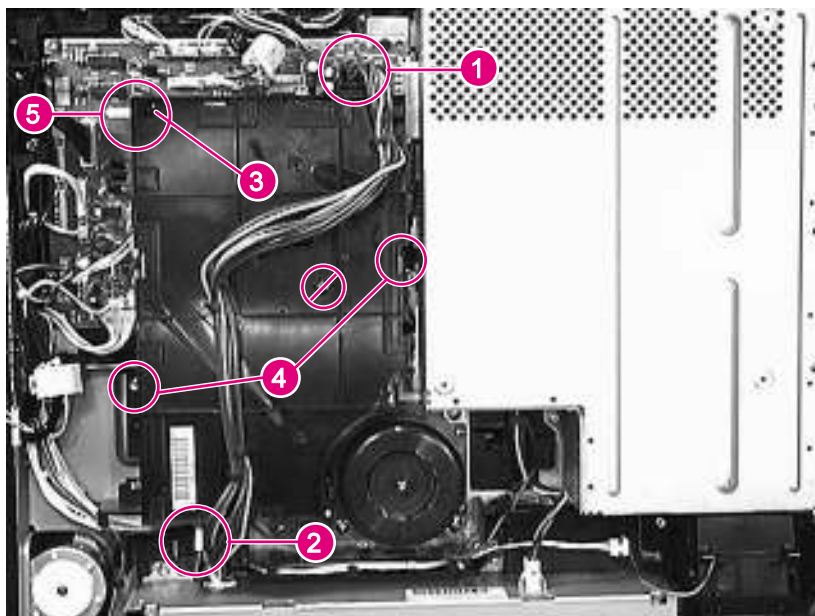

Figure 6-51 High Voltage Power Supply
- High Voltage Power Supply (HVPS) (see figure 6-51 on page 323)
- 2 Remove the HVPS (see figure 6-51 on page 323).
- 3 Remove the High Voltage Power Supply (see figure 6-51 on page 323).
- 2 Unplug the cable from the LVPS to the DC Controller PCA (figure 6-51, callout 1), and move it out of the way.
- 3 Unplug the connector from the bottom of the HVPS (figure 6-51, callout 2).
Do NOT remove the screw indicated in Figure 6-51, beneath the null symbol.
- 4 Remove 1 self-tapping screw (figure 6-51, callout 3) and 2 screws (figure 6-51, callout 4).
Make sure that the plastic alignment pin (figure 6-51, callout 5), the connector pins, and the high voltage contacts are properly aligned before replacing the screws.